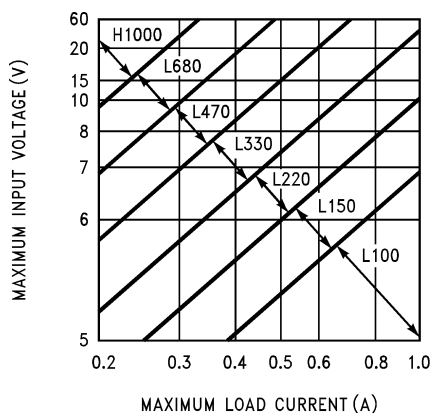
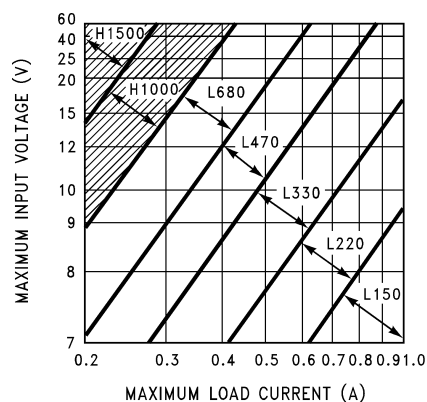
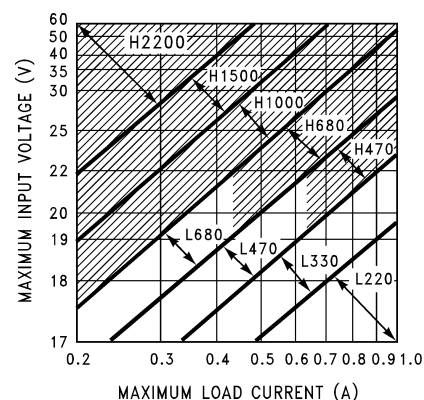

Figure 15. TL2575-33
Figure 16. TL2575-50
Figure 18. TL2575-15
1. Inductor Selection (L1) A. From Figure 15 through Figure 18, select the appropriate inductor code based on the intersection of $V_{IN(Max)}$ and $I_{LOAD(Max)}$. B. From Table 2, choose the appropriate inductor based on the inductor code. Parts from three well-known inductor manufacturers are given. The inductor chosen should be rated for operation at 52-kHz and have a current rating of at least $1.15 \times I_{LOAD(Max)}$ to allow for the ripple current. The actual peak current in L1 (in normal operation) can be calculated as follows: $I_{L1(pk)} = I_{LOAD(Max)} + (V_{IN} - V_{OUT}) \times t_{on}/2L1$ Where $t_{on} = V_{OUT}/V_{IN} \times (1/f_{osc})$	1. Inductor Selection (L1) A. From Figure 16 (TL2575-05), the intersection of 20-V line and 1-A line gives an inductor code of L330. B. L330 $\rightarrow$ L1 = 330 μH Choose from: 34042 (Schott) PE-52627 (Pulse Engineering) RL1952 (Renco)